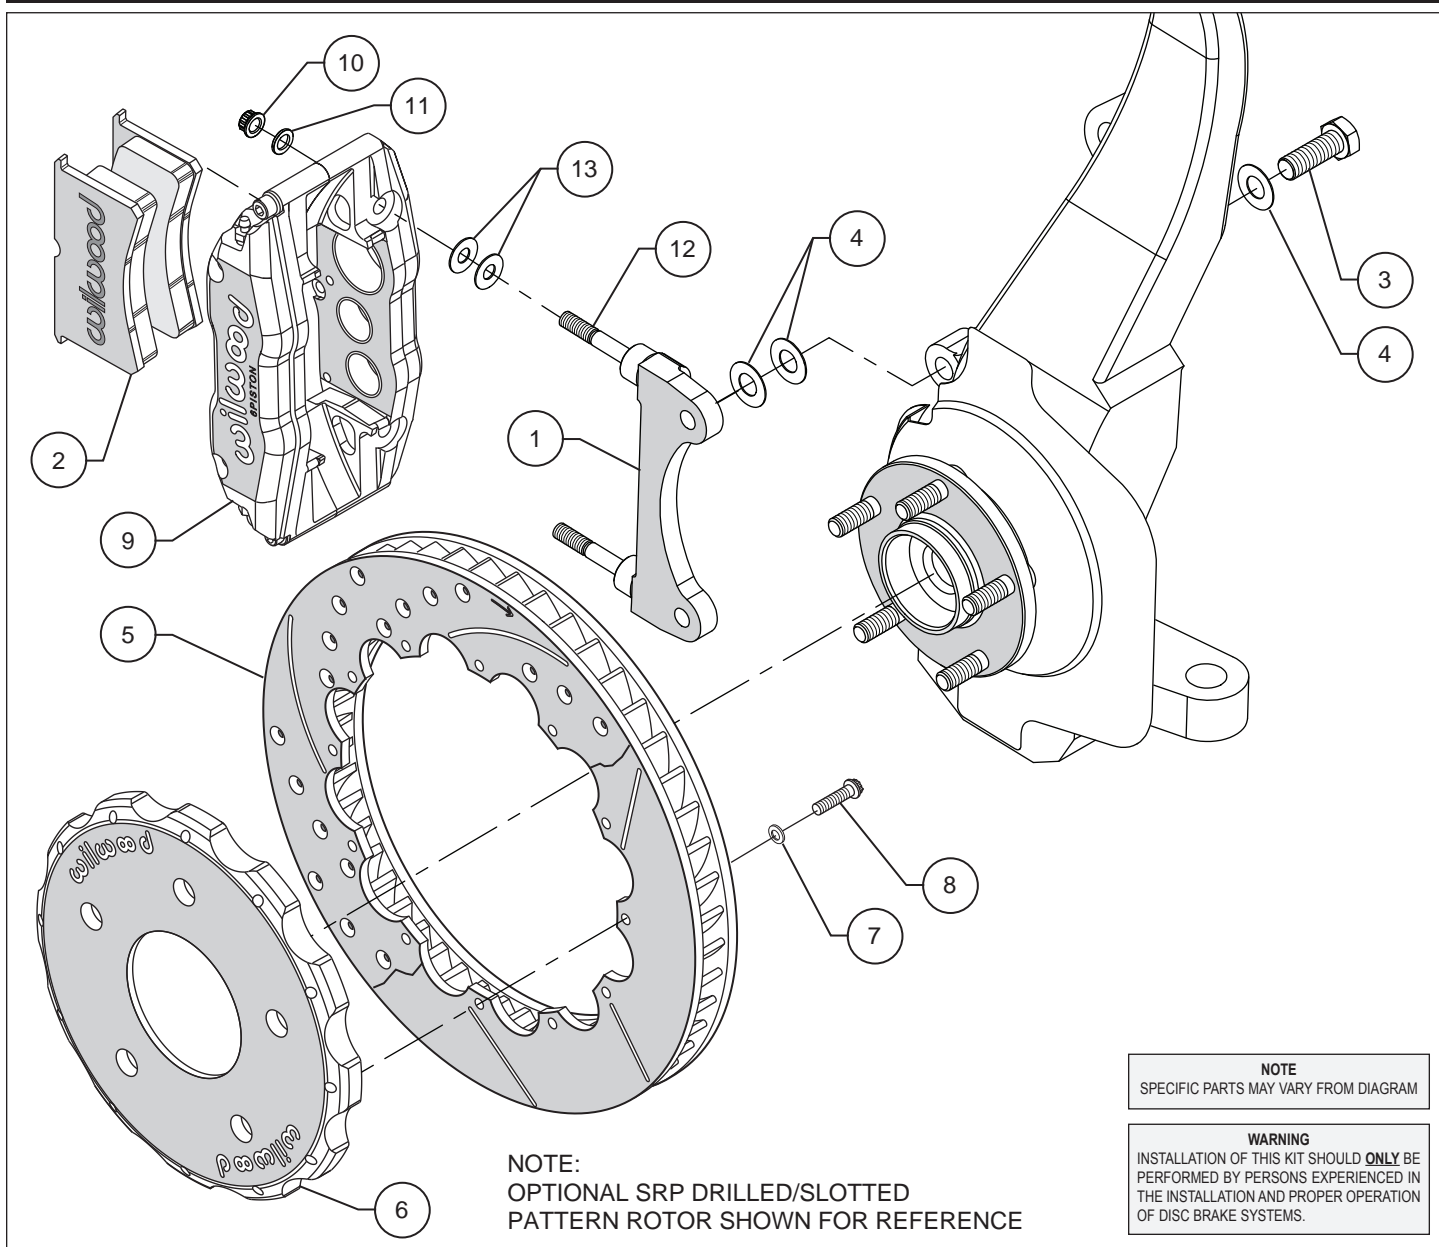

Figure 1. Typical Installation Configuration
**Assembly Instructions** (numbers in parenthesis refer to the parts list and Figure 1 on the preceding pages):
•The caliper mount bracket (1) should initially be installed with clean, dry threads on the mounting bolts. Orient the bracket as shown in Figure 1 and Photo 1, and install using shim washers (4) and bolts (3). Initially place two additional shims (4) on each bolt between the bracket and upright, Figure 1. Temporarily tighten the mounting bolts. **NOTE:** The bracket must fit squarely against the mount bosses on the upright. Inspect for interference from casting irregularities, machining ridges, burrs, etc. Later, after the caliper alignment has been checked, the mount bolts will be secured using red *Loctite*® 271.
•Orient the rotor (5) and the hat (6) as shown in Figure 1 and Photo 2. Attach rotor to hat using bolts (8) and washers (7). Using an alternating sequence, apply red *Loctite*® 271 to the threads, and torque to 155 in-lbs. Safety wire bolts using standard 0.032 inch diameter stainless steel safety wire as shown in Figure 4. Please refer to Wilwood's data sheet DS-386 (available at [www.wilwood.com/Pdf/DataSheets/ds386.pdf](http://www.wilwood.com/Pdf/DataSheets/ds386.pdf)) for complete safety wire installation instructions.
•**NOTE:** This kit contains distinct right and left hand calipers that must be mounted in a specific direction, as described below. Lubricate the caliper mounting studs (12) with lightweight oil. Initially place two .035" thick shims (13) on each stud as shown in Figure 1 and Photo 3. With the bleed screws pointing up, mount the caliper (9) onto the bracket (1) using lock nuts (10) and washers (11), Figure 1 and Photo 4. Ensure that the caliper is mounted so that the largest pistons are at the rotor exit end of the caliper, in relation to the direction of rotor rotation. Temporarily tighten the lock nuts and view the rotor through the top opening of the caliper. The rotor should be centered in the caliper, Photo 5. If not, adjust by adding or subtracting shims (4) between the bracket and the upright. Always use the same amount of shims on each of the two mounting bolts. Once the caliper alignment is correct, remove the bracket mounting bolts one at a time, apply red *Loctite*® 271 to the threads, and torque to 75 ft-lb.